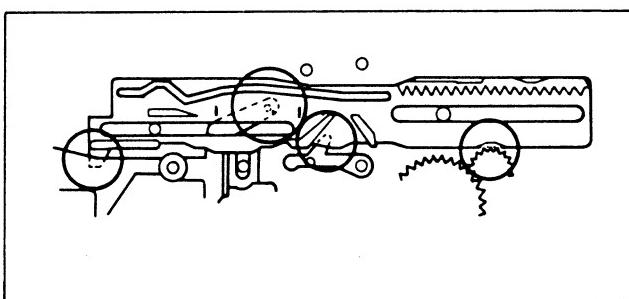
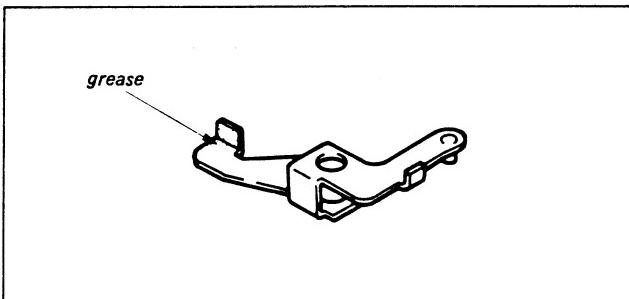

Fig. 3-38.
Fig. 3-39.
- 2) Push mode arm ② in the direction of arrow A, and mount the M slider ⑯, noting the positioning of the other parts in Fig. 3-38, and mount the stopper washer ⑯.
- 3) Mount hard brake S ② and spring ⑯.
- 4) Apply grease. (See Fig. 3-39)
- 5) Apply a half drop of oil from the shaft ⑬ groove to the bottom, mount the pinch press lever assembly ⑮ and the E ring ⑦.
- 6) Mount RL arm assembly ⑮, mount the ring lock spring ⑭ and the stopper washer ⑯.
- 7) Mount the RVS arm ⑫.
- 8) Mount B release slider ⑪ and stopper washer ⑯.
- 9) Mount REW brake assembly ⑨.
- 10) Mount the two springs ⑧.